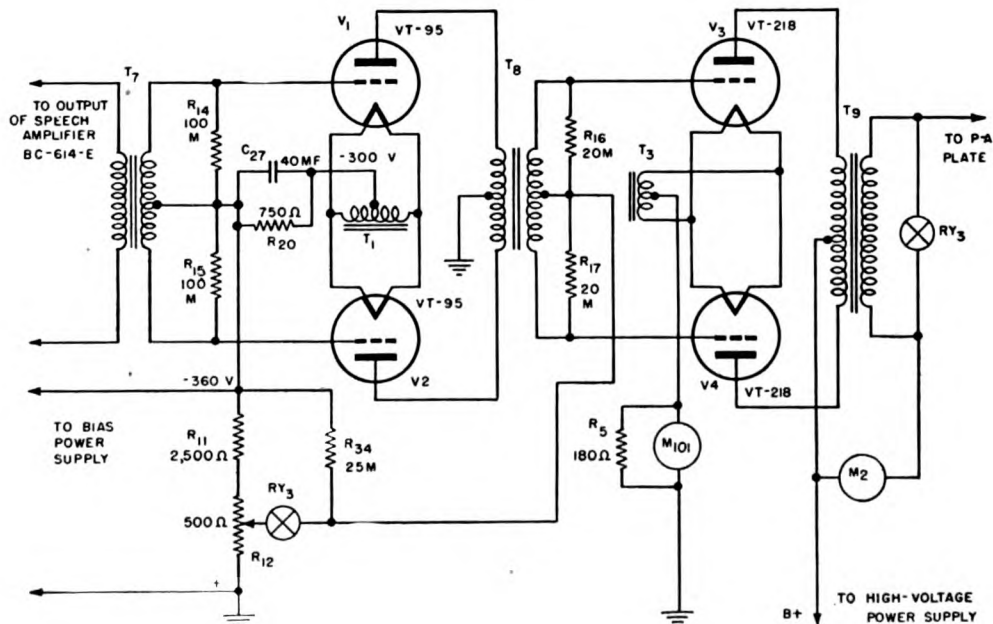

Figure 62. Driver and modulator stages—functional diagram.
a. DRIVER STAGE (fig. 62). Tubes V_1 and V_2 (Tubes JAN-2A3 (VT-95)) are operated as Class AB_1 a-f amplifiers connected in a push-pull circuit. The suffix 1 after AB denotes that grid current is not allowed to flow during any part of the input cycle. Plate voltage for tubes V_1 and V_2 is furnished by the bias-voltage power supply. This power supply has the positive side of the output voltage grounded, and therefore the ungrounded side of the output voltage is approximately 360 volts negative with respect to ground. The filaments of the driver tubes are connected through resistor R_{20} to 360 volts negative, and the plates are connected to ground through the center tap of driver transformer T_8 . This places the plates at a potential of approximately 300 volts positive with respect to the filaments. Approximately 60 volts negative grid bias is obtained as a result of the voltage drop
b. MODULATOR STAGE (fig. 62). Tubes V_3 and V_4 (Tubes JAN-100-TH (VT-218)) are operated as a Class B push-pull modulator stage. Class B operation requires that the tubes be biased near plate current cut-off. Under this condition, the
b. MODULATOR BIAS CONTROL RESISTOR R₁₂ (fig. 62). The MODULATOR BIAS control resistor R₁₂ is located on the lower front panel of the transmitter. It adjusts the bias voltage to modulator tubes V₃ and V₄. Resistor R₁₂ also serves in conjunction with resistor R₁₁ as a bleeder resistor for the bias-voltage power supply.